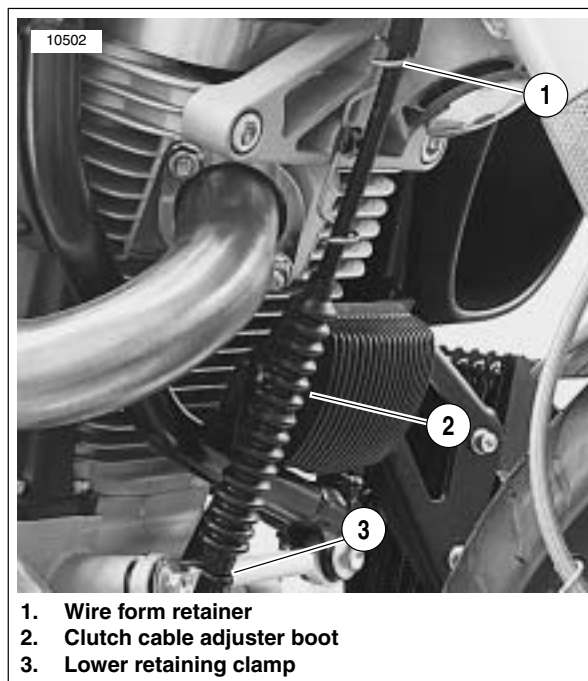
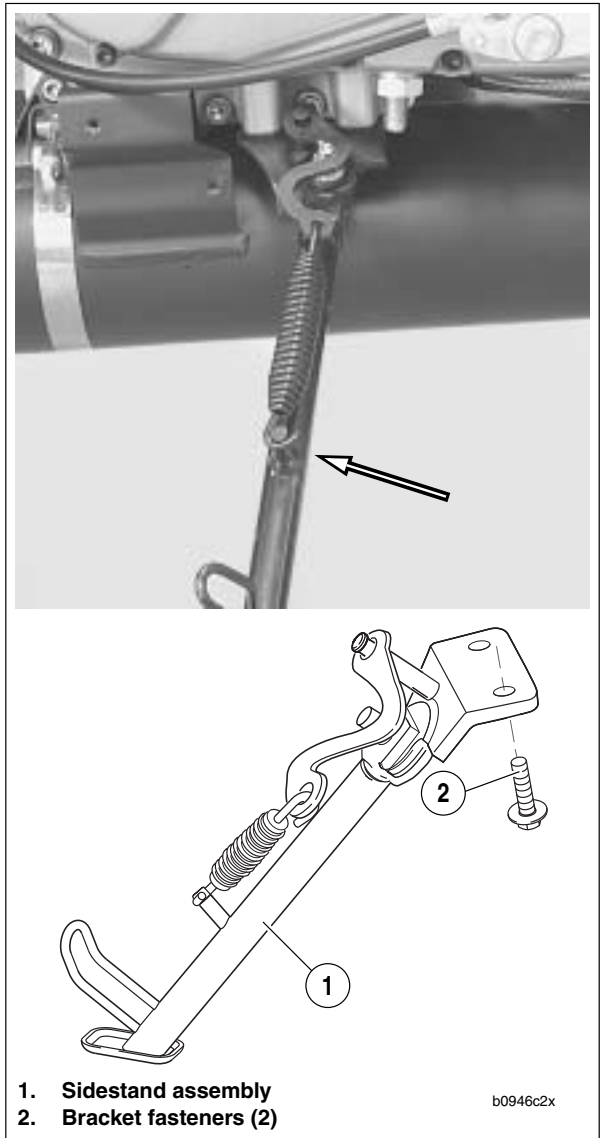

Figure 3-20. Clutch Cable Wire Form Retainer, Retaining Clamp and Adjuster Boot
Figure 3-21. Sidestand Assembly (Extended)
29. See Figure 3-20. Disconnect clutch cable.
- b. Slide clutch cable adjuster boot (2) up to access clutch adjuster.
30. See Figure 3-21. Remove two fasteners (2) and remove sidestand assembly.